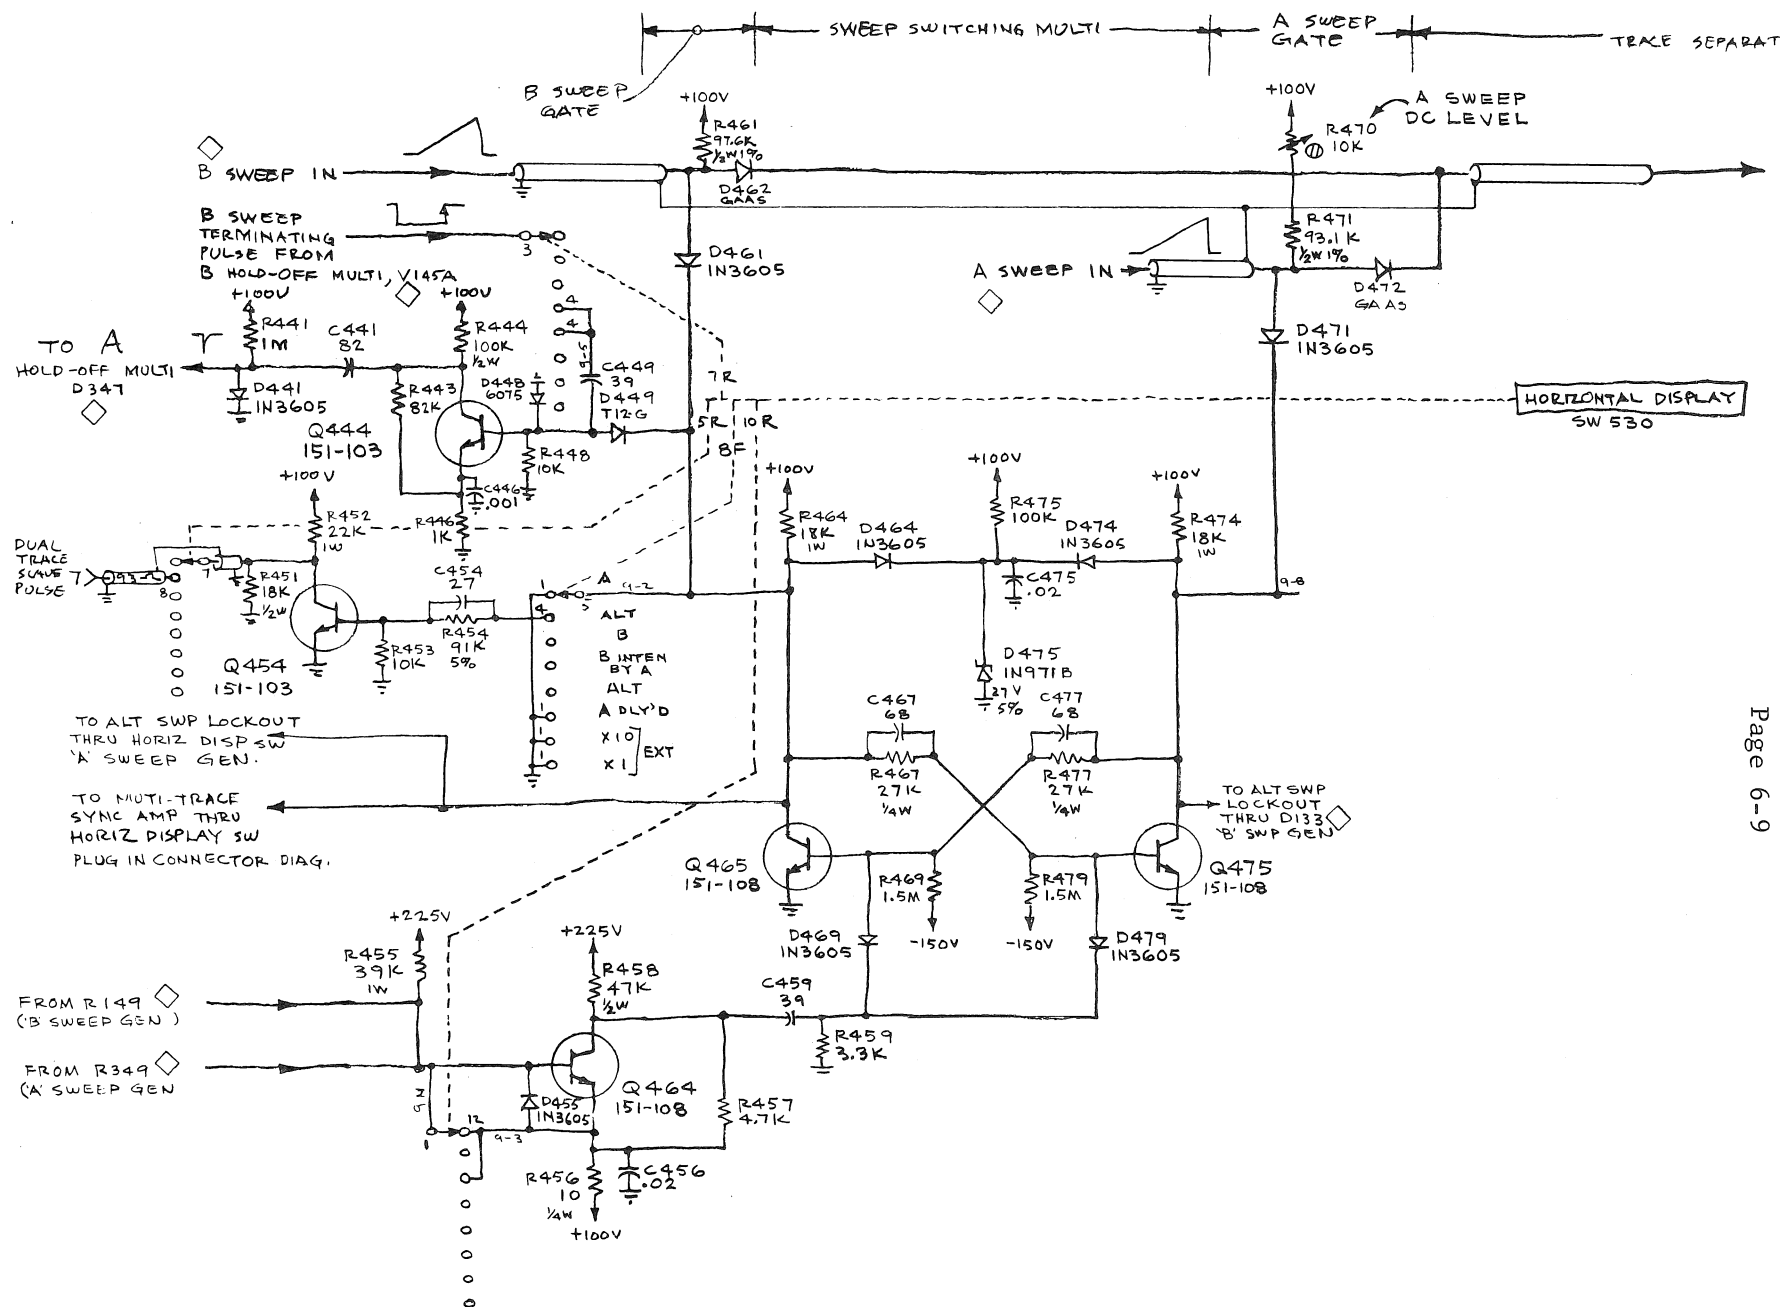

Figure 6-3 Time Base Switching
7. A Sweep Termination: (Figure 6-3)